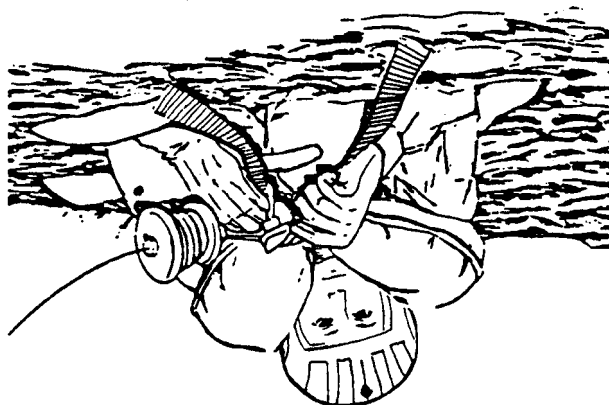

Figure 5-28.—Attaching the V-ring.
3. Attach the V-ring on the strop to the rescue hook, as shown in figure 5-28.